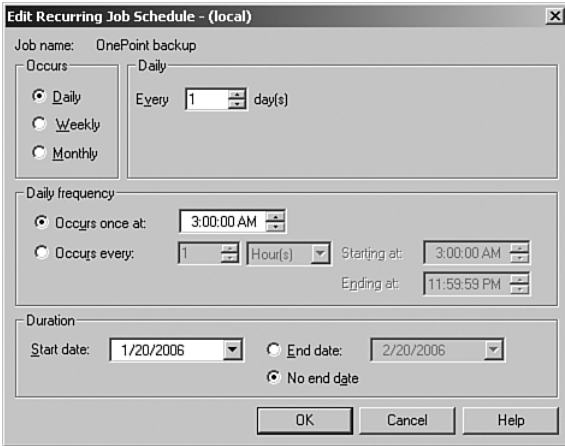

FIGURE 12.6 The Edit Recurring Job Schedule screen.
6. Click the Change button to change the schedule from weekly to daily. Figure 12.6 shows the updated Occurs value changed to daily and the start time at 3:00 AM rather than the 12:00 AM default start time.